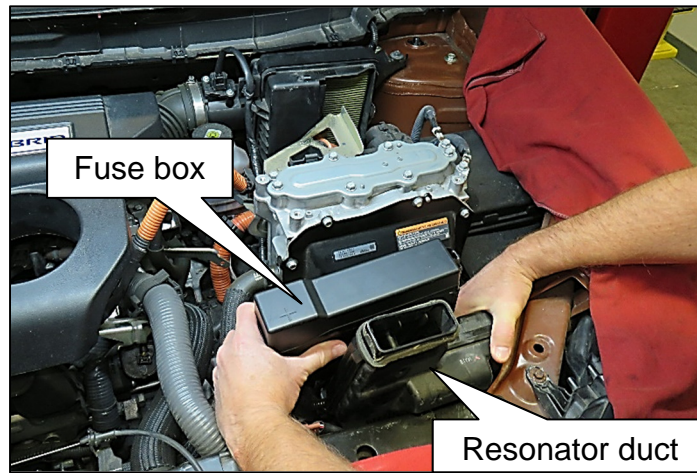

Figure 9
- Lift and move the fuse box toward the rear of the vehicle to remove the resonator duct from the vehicle, as shown in Figure 9.